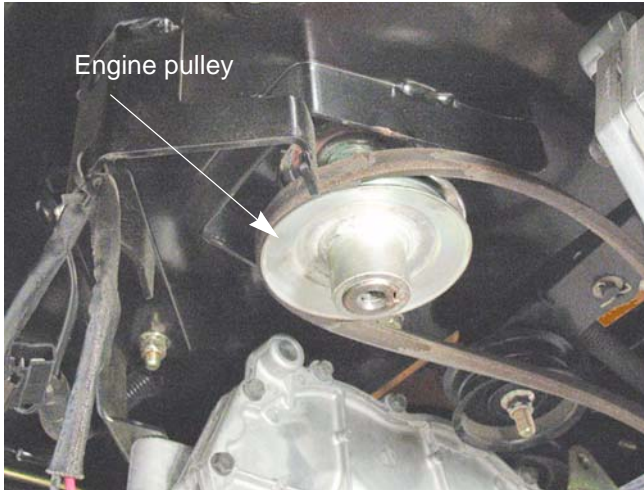

Figure 5.6
13. Slide the engine pulley down far enough to slip the belt off of the pulley. See Figure 5.6.